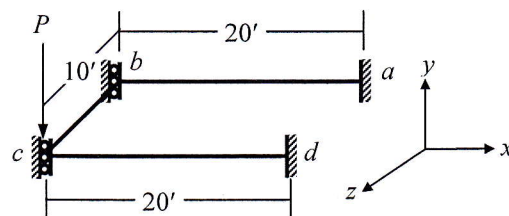

Fig. 5
5. Fig. 5 shows a grid $abcd$ whose joint c deflects $0.10'$ downward due to the applied force P . Use Stiffness Method to calculate the force applied and the deflection at joint b [Given: $EI = 40 \times 10^3 \text{ k-ft}^2$, $GJ = 30 \times 10^3 \text{ k-ft}^2$].